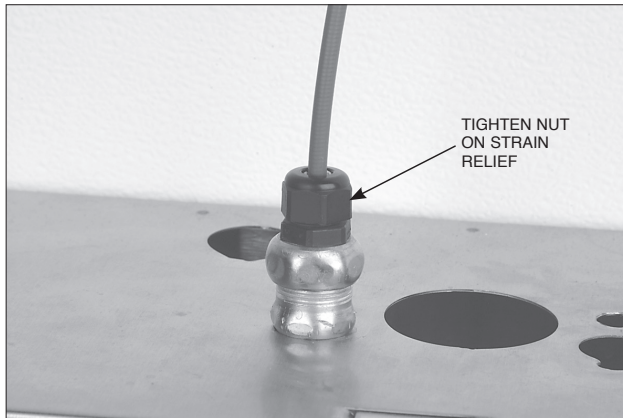

FIGURE 5-61
10. Tighten the strain relief nut onto the strain relief. See Figure 5-61.